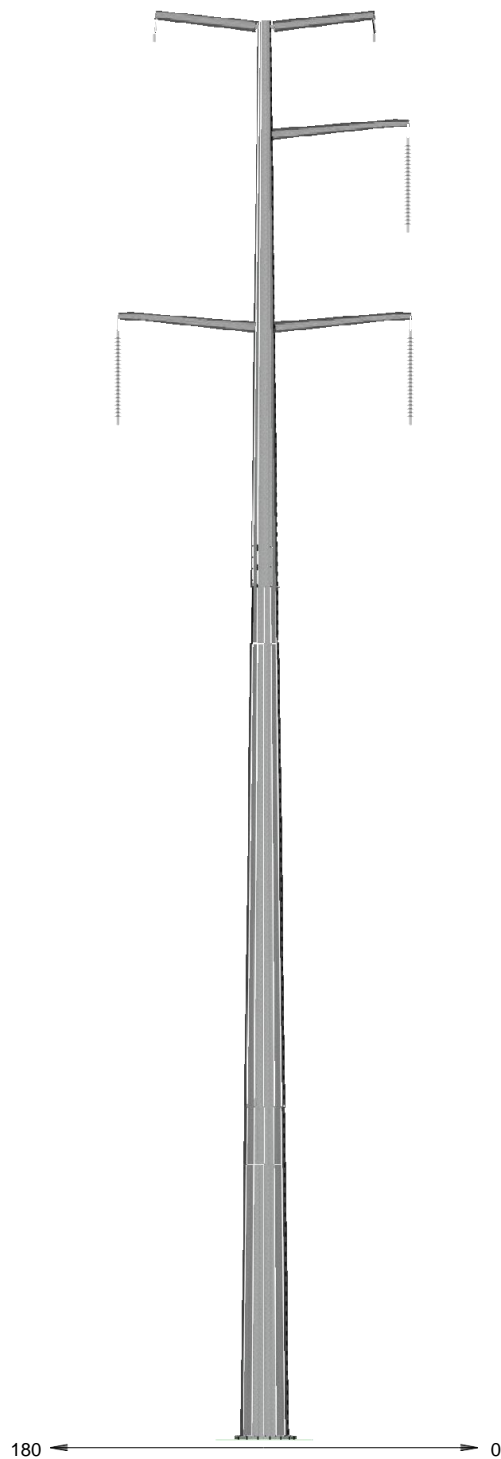

FIGURE G-10
- Figure G-10: Double-Circuit 230 kV Single-Pole, Dead-End, Vertical Configuration on Davit Arms with Strain Insulators